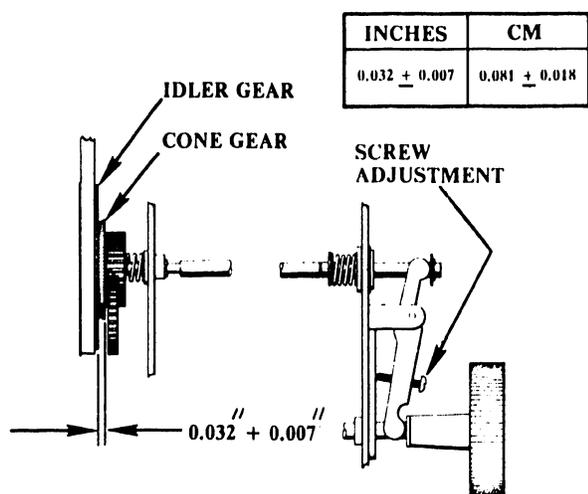
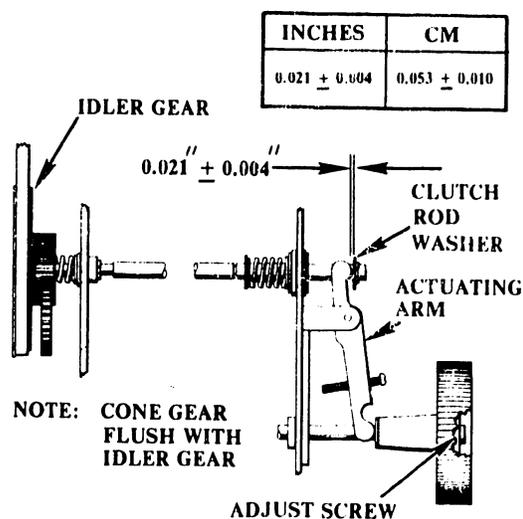

FIGURE 6-31 SPROCKET
FIGURE 6-32 SPROCKET
- 1) By using the horizontal vernier knob, push the vernier clutch in and out. With the use of a feeler gauge check for a clearance of  $0.032" \pm 0.007"$  ( $0.081 \text{ cm} \pm 0.018 \text{ cm}$ ) between the idler gear and the cone gear as shown in Figure 6-31. Also, when the knob is released after paper advancement, the vernier clutch should fully reengage flush with gear surface as shown in Figure 6-32.
- 1) With the clutch engaged (automatic advance) adjust the Allen screw in the center of the horizontal vernier knob for a gap of  $0.021" \pm 0.004"$  ( $0.053 \text{ cm} \pm 0.010 \text{ cm}$ ) between the actuating arm and the clutch-rod washer (see Figure 6-32).
- 2) With the clutch disengaged (manual advance), adjust the screw on the actuating arm for a  $0.032" \pm 0.007"$  ( $0.081 \text{ cm} \pm 0.018 \text{ cm}$ ) gap between the cone gear and the idler gear (see Figure 6-31). (This screw can be adjusted through the hole in the horizontal vernier knob.)